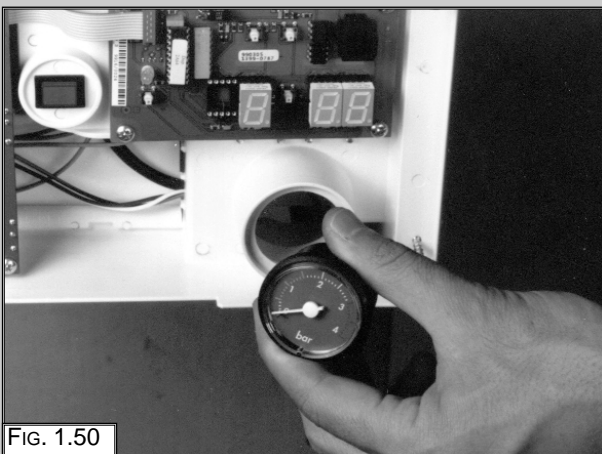

FIG. 1.50
3. Remove the pressure gauge. (FIG 1.50).